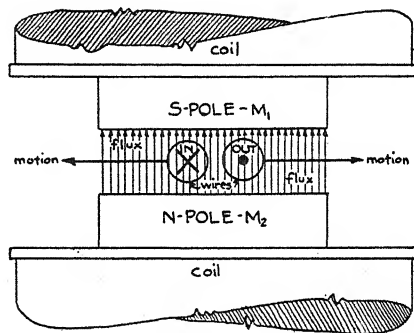
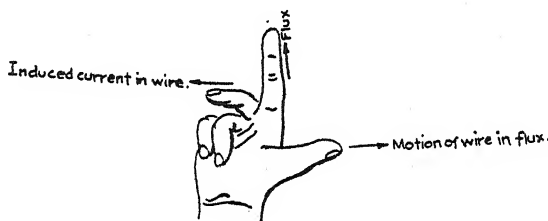

FIG. 60. Direction of induced current in a wire.
FIG. 61. Right-Hand Rule for generators.
**Right-Hand Rule for Generators.** From these experiments certain facts may be noted as always true for a conductor cutting through flux. Record should be made of these as shown in Figure 60. Note that, in these drawings, the wires are shown as circles, as if representing a section of the wire between the poles. The wire carrying current out of the page is shown as a circle with a dot in it, as the point of an arrow coming out of the page. The wire carrying current into the page is shown as a circle with a X in it, as the tail of an arrow going into the page (see Fig. 60). Examine the right-hand rule illustrated in Figure 61, as it indicates how to determine, without experi-
As an aid in remembering this rule it should be noted that forefinger and flux both begin with "f"; and center finger and current both begin with "c." Figure 61 shows the rule applied to the right-hand wire in Figure 60. Check the rule on the other wire shown in Figure 60, and against the results of Experiment 28 and especially Experiment 27. The rule given here is absolutely correct and should check with the experimental results.
Prob. 22. If  $M_1$  and  $M_2$  in Figure 60 are both made  $N$  poles, show the flux paths. Will the wire motion in such a field generate any current?